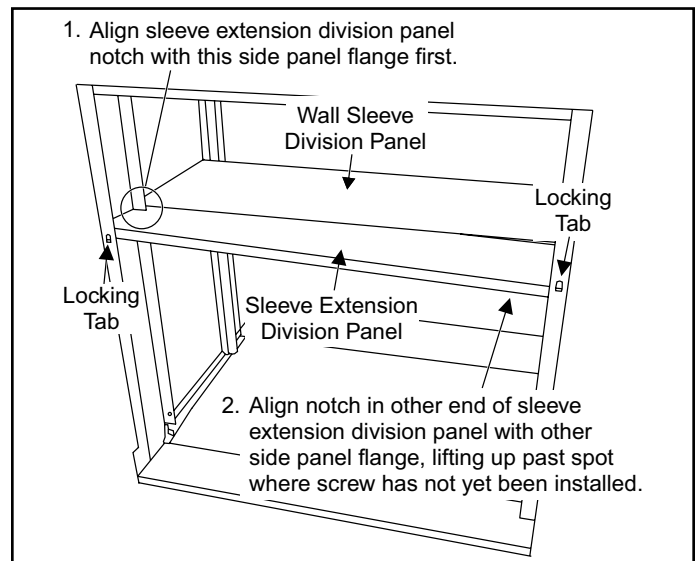

Figure 5. Installing Division Panel
6. Install sleeve extension division panel (Figure 5). Align notches in division panel so that they fit around wall sleeve side panel flanges. Sleeve extension division panel must be installed under the wall sleeve division panel.